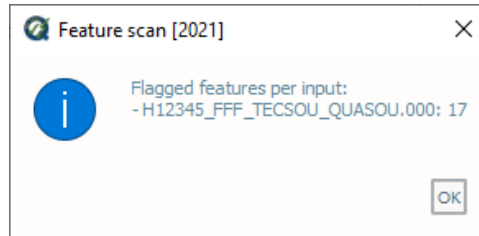

Fig. 2.43: The output message at the end of **Feature scan** execution.
- After computing, the output window opens automatically, the results are shown (Fig. 2.43).